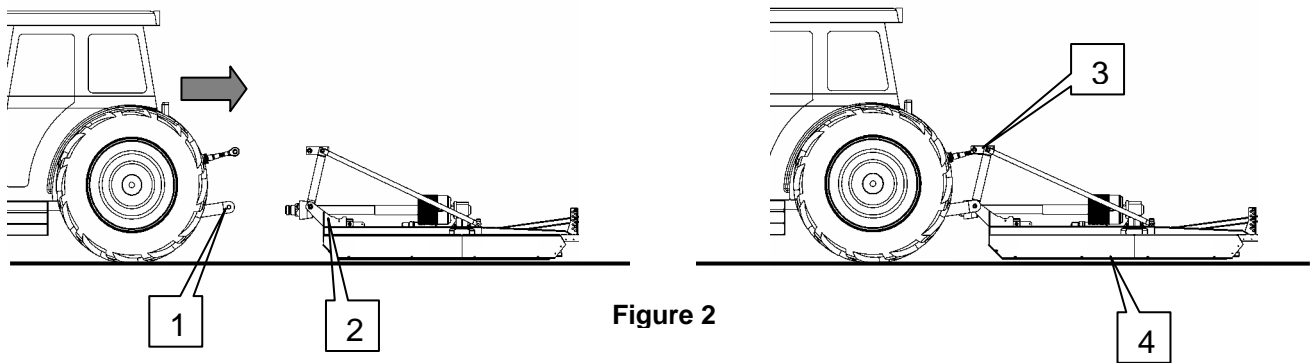

Figure 2
- Reverse tractor squarely to the machine (*Fig.2*).
- Gradually reverse tractor until lift arm holes (1) are level with mounting pins (2).
- Fit top stay of machine to top link on tractor (3), adjusting the length with the machine level on the skids (4)